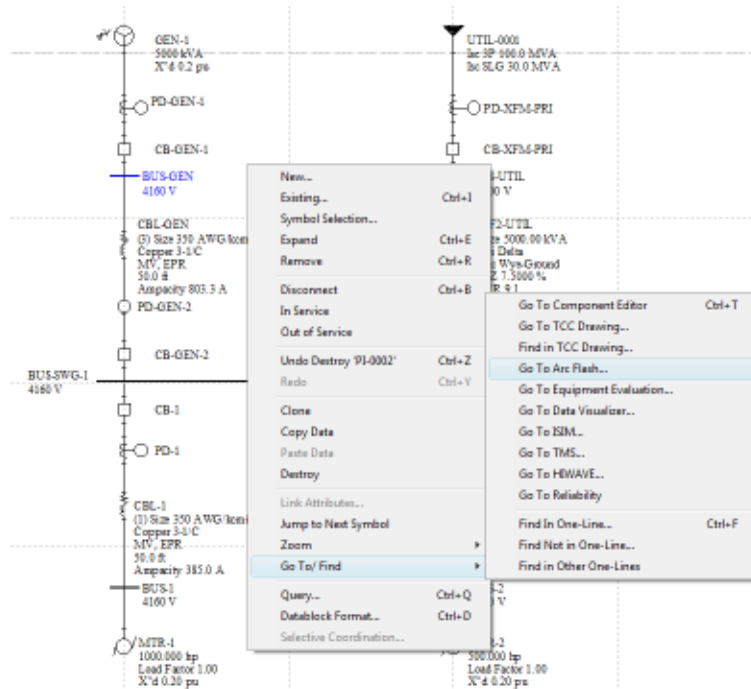

Figure 11
- Select BUS-GEN from the one-line drawing. Right-click and choose Go To/Find > Go To Arc Flash to analyze the study results for the bus which is within the protection zone of the directional relays (Figure 11).